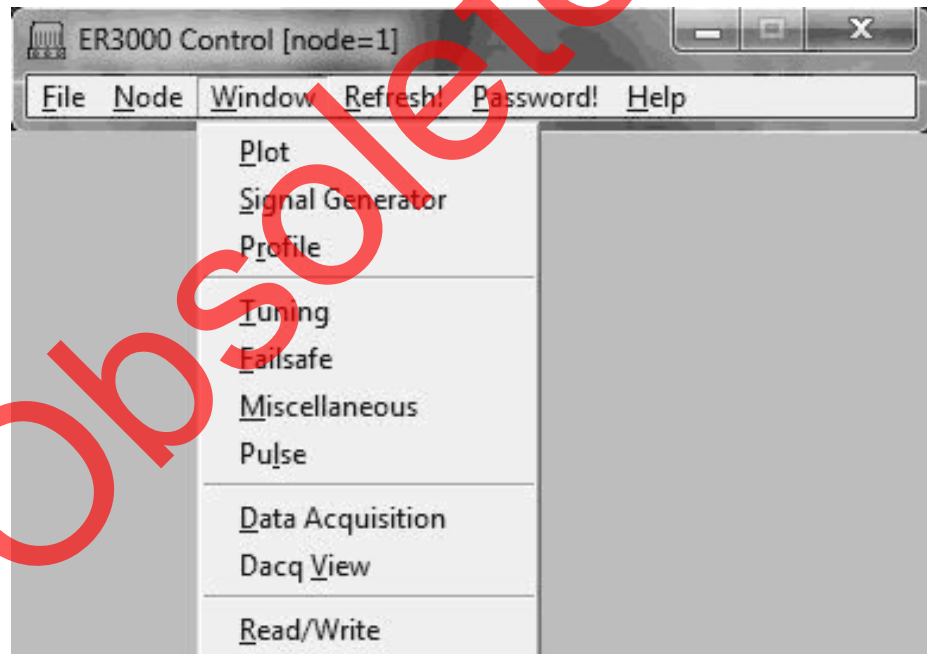

Figure 14 Window Drop Down Menu
2. See Figure 14. At the main menu, drop down the *Windows* menu, and select *Tuning*.